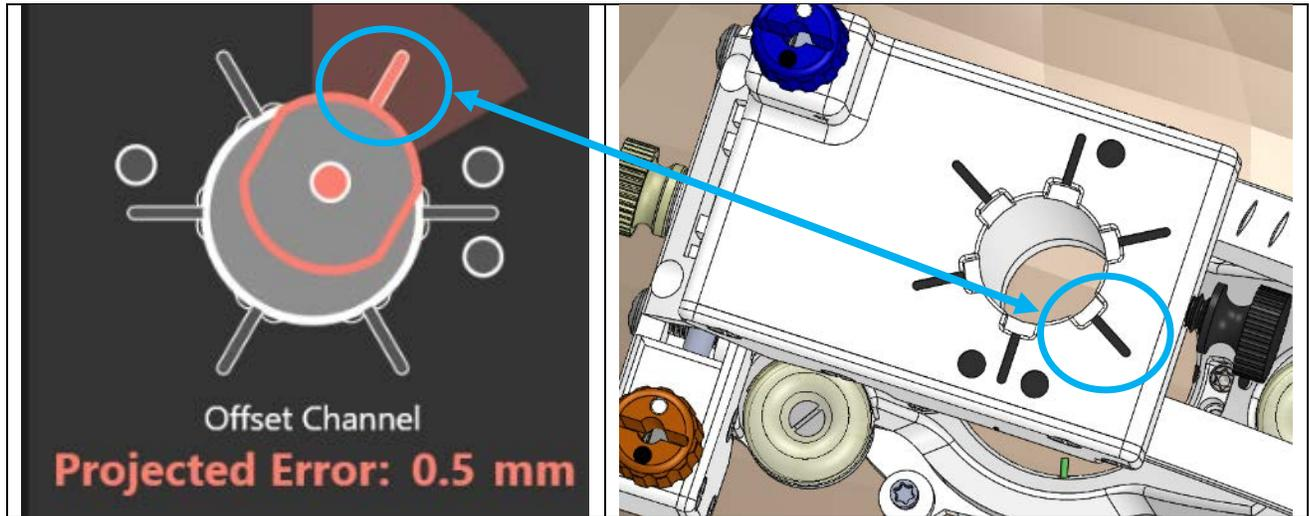

Figure 157: Offset channel selected in the software (Left), and the corresponding position on the SMARTFrame Array tower (Right)
4. If using the OFFSET Insertion Guide, line up the side tab with the channel position line on the tower. The orientation dots on the tower match those shown in the Software. **See Figure 157.**